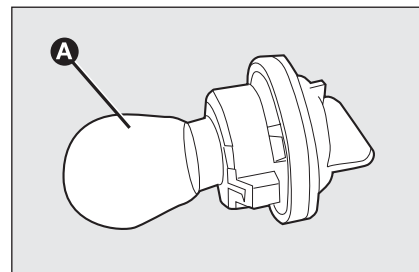

fig. 25
- ☐ remove the bulb **A-fig. 25** and replace it;